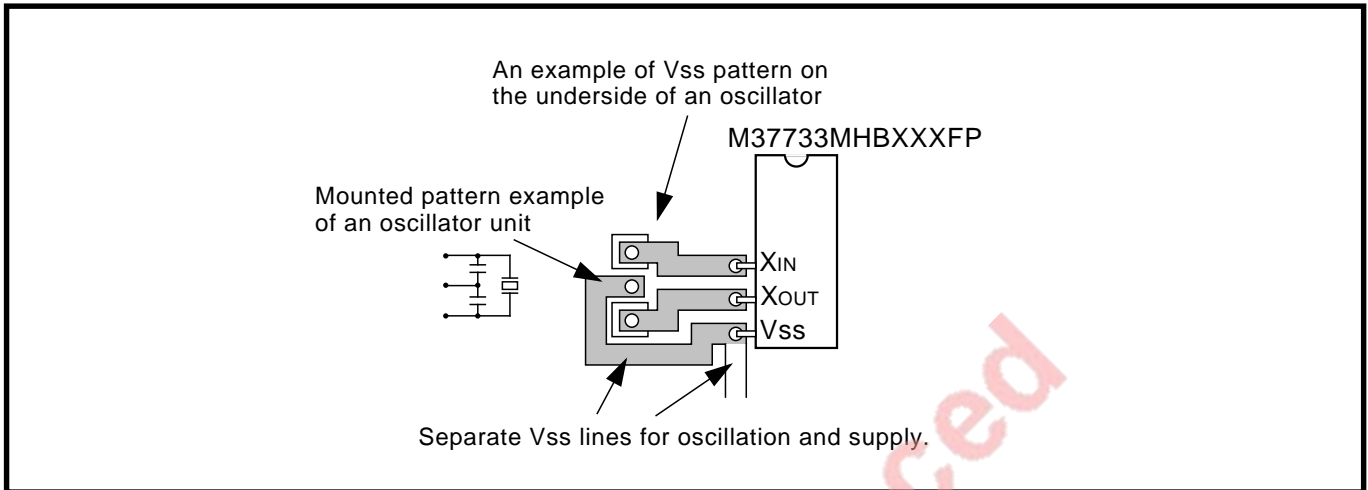

Fig. 21 Vss pattern underneath mounted oscillator
- Separate the Vss pattern only for oscillation from all other Vss patterns. (Refer to **Figure 21.**)